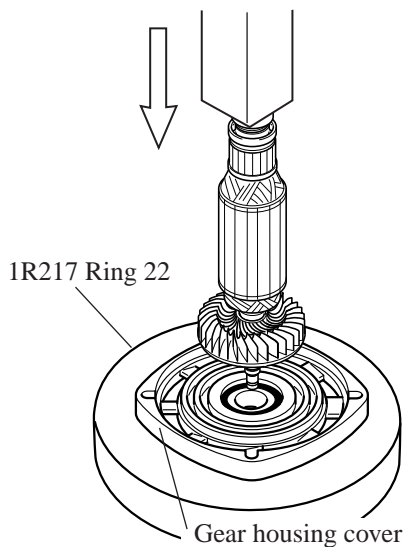

Fig. 2
- (1) Put gear housing over on No. 1R217 "ring 22", and assemble armature to gear housing cover by pressing with arbor press as illustrated in Fig 2.